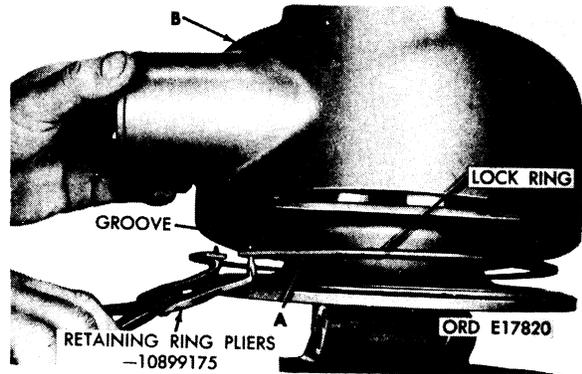

FIGURE 13. REMOVING OR INSTALLING COMPRESSOR COVER - TURBOCHARGER 7748900.
- (3) Scribe alinement marks (C) on compressor cover, compressor housing assembly, bearing housing assembly, and turbine housing to ensure correct positioning during assembly.
- (4) Remove lockwire from compressor cover cap screws (D). Remove eight cap screws and sealing washers securing the compressor cover to compressor housing assembly. Discard sealing washers and lockwires.
**a. Turbocharger 7748900.** Refer to figure 13.
- (1) Compress compressor cover lock